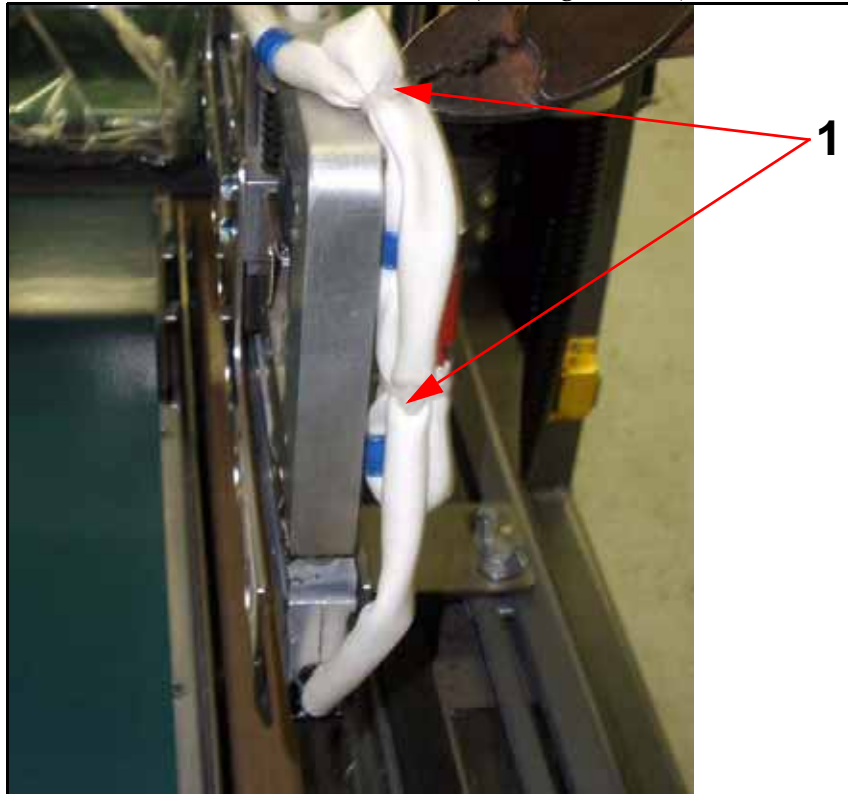

Figure 7-16. Cutting Cable Ties
- 3 Cut and remove cable ties (1 in Figure 7-16) on heater wires.